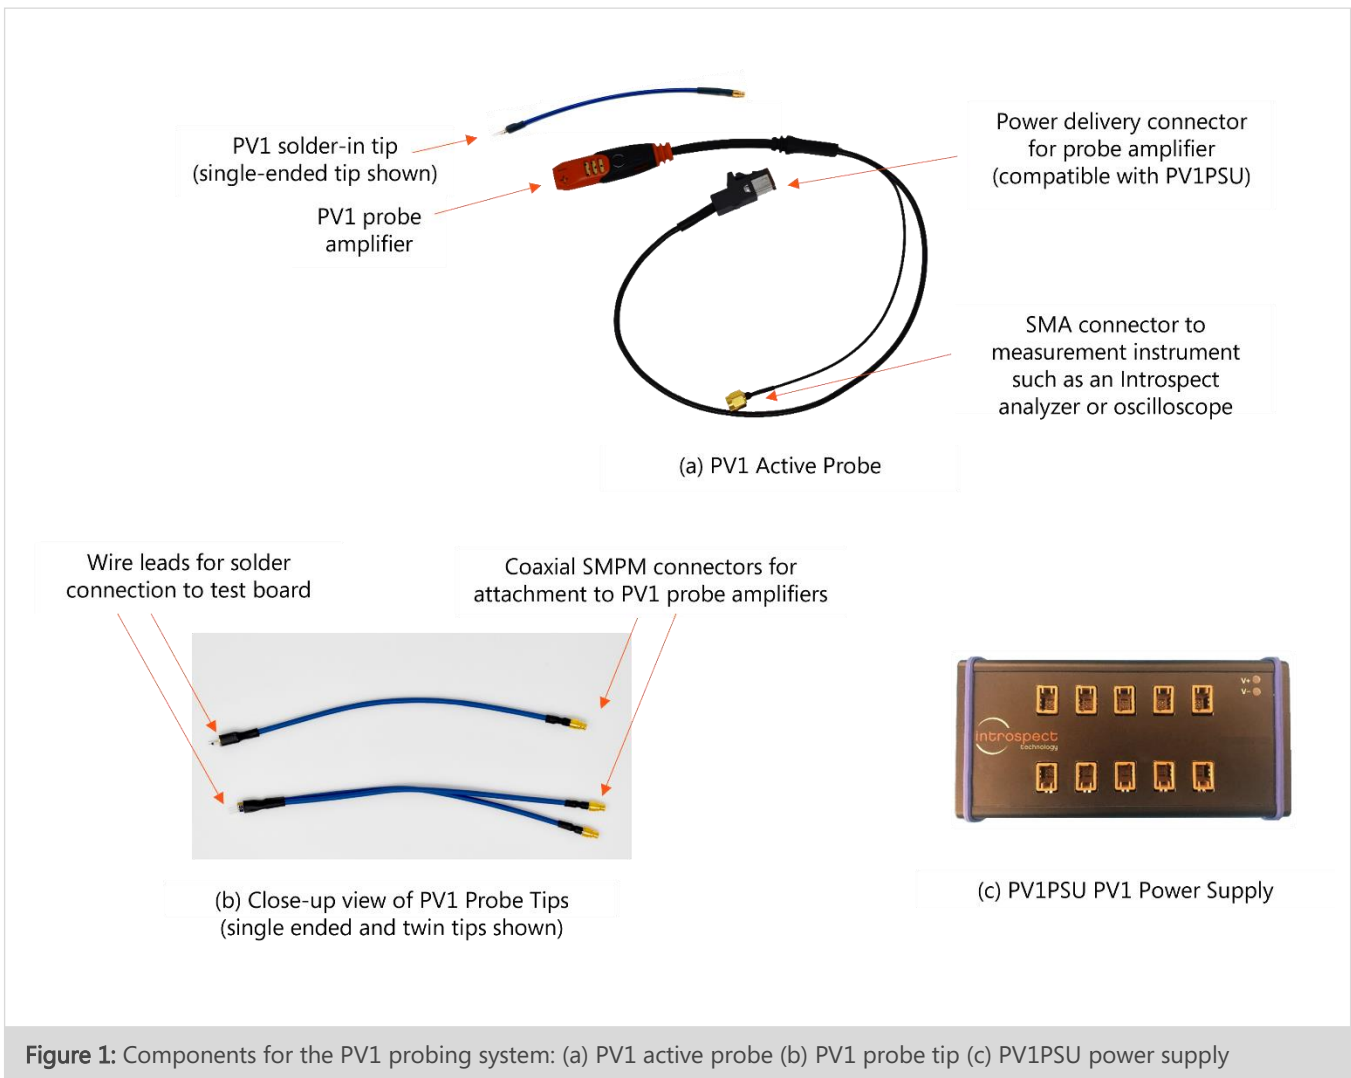

Figure 1: Components for the PV1 probing system: (a) PV1 active probe (b) PV1 probe tip (c) PV1PSU power supply
The individual elements of the PV1 universal active probe system are shown in detail in Figure 1 below, and guidelines for attaching the PV1 solder-in probe tips to a device under test are provided in the section which follows. Please note that additional information on PV1 solder in probe tips (both single-ended and twin varieties) may be found in the PV1 Active Probe Datasheet.
6. Connect the PV1 probe amplifiers to the PV1 probe tips soldered to the test fixture. This connection is made with the miniature coaxial connector, as shown previously in Figure 1(b).